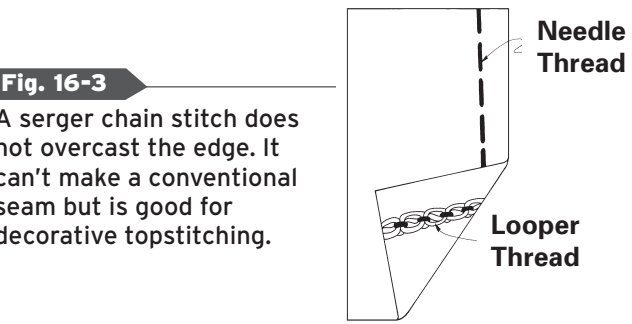

Fig. 16-3
- Chain stitch.** A stitch that does not overcast the edge; available on 4/2- and 5-thread sergers. A chain stitch is like the closure on most pet food bags; it looks like a straight stitch but can pull out readily. It is also called a safety stitch. (Fig. 16-3)